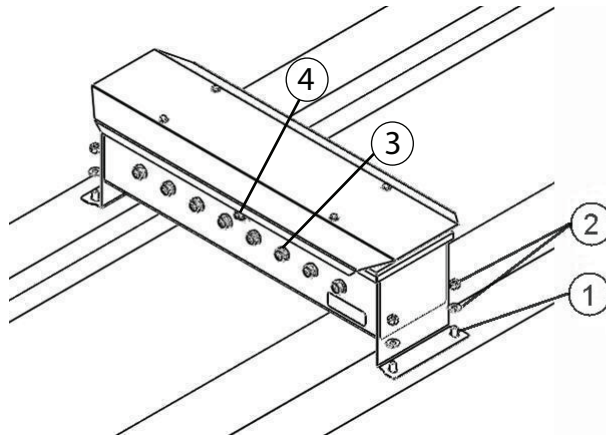

Figure 2 PDC Installation
4. Install the anchors in the concrete, and place the PDC onto the anchors. Make sure that the PDC legs are flush with the channel walls. Refer to Figure 2.